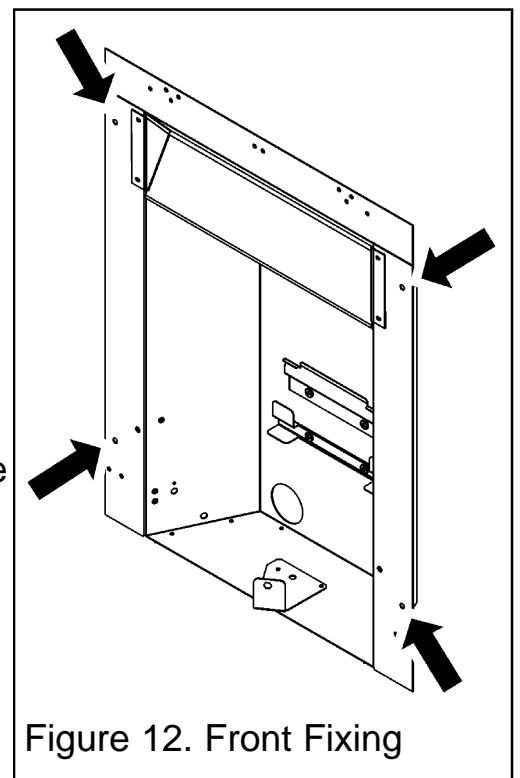

Figure 12. Front Fixing
3. Mark the fireplace front surround through the four fixing holes in the side flanges of the hotbox (See figure 12).